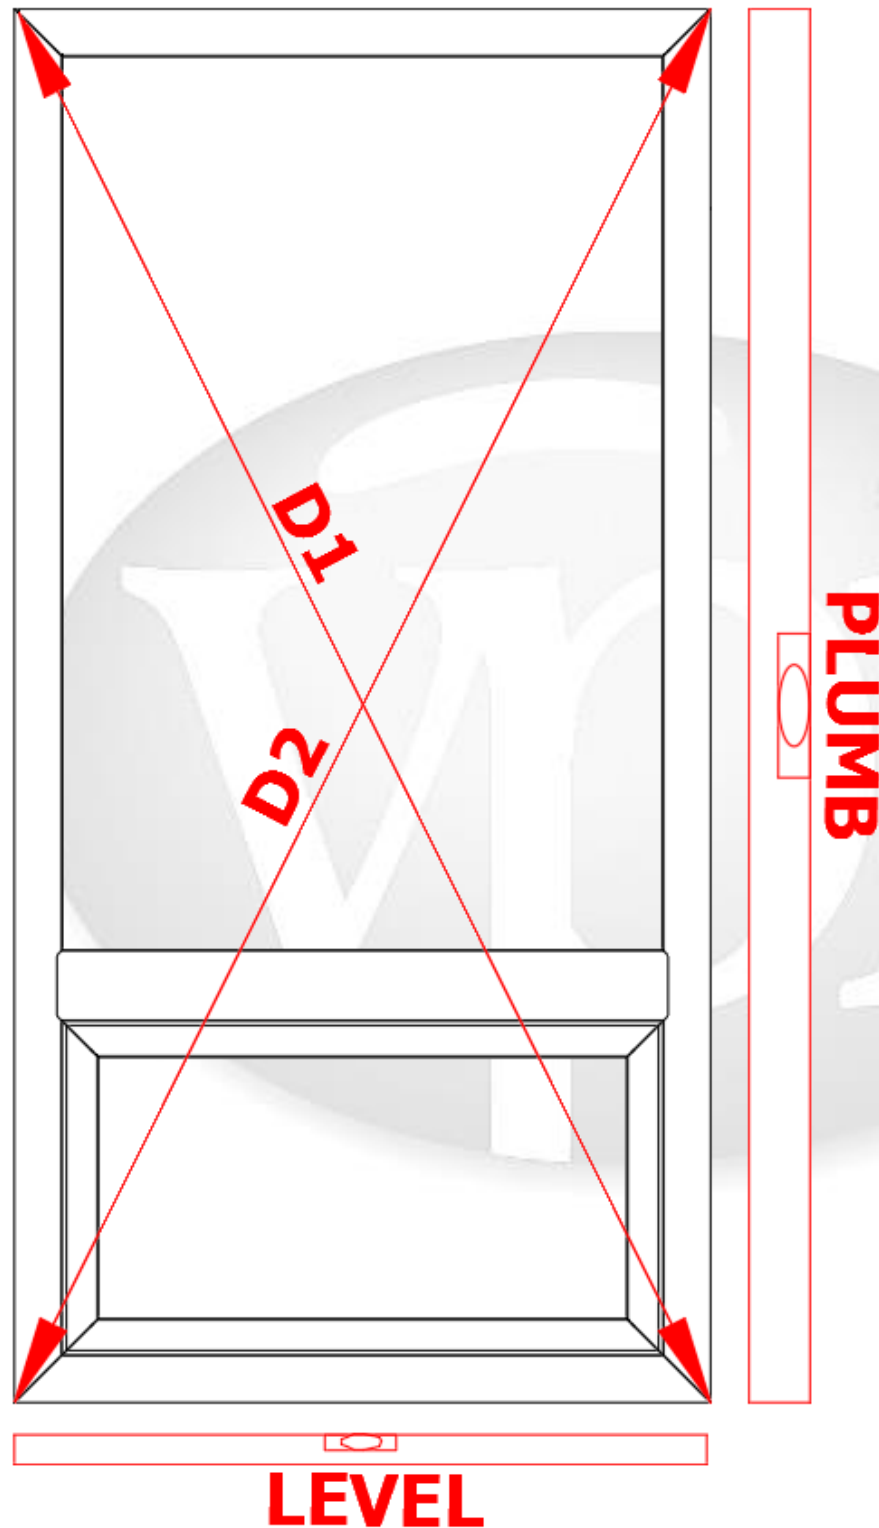

Figure 5: Frame Squaring View
tolerance. If not then split the difference and that is the overall adjustment that needs to be made. (See Figure 5)
B) **Level & Plumb** Use a level to check the sill and jamb to determine if the frame is level and plumb. (See Figure 5)